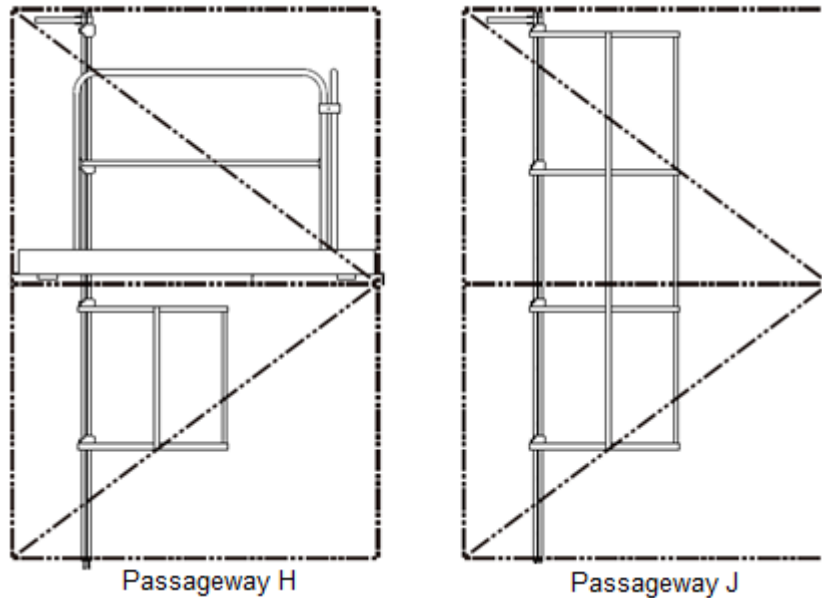

Fig. 4-4 Passageway H and Passageway J
- Every Tower Section is equipped with channels, flat roof and ladders for human's resting and pass. The channels have H, J two types (see Fig. 4-4). The installation of Tower section and channel has been done on the ground and they must be used relatively. All elbow ladders should be installed on the side leaf of climbing pedestal. According to the height of tower body, the bottom tower section must install Channel H, the remaining channels H and channels J alternate installation in turn.